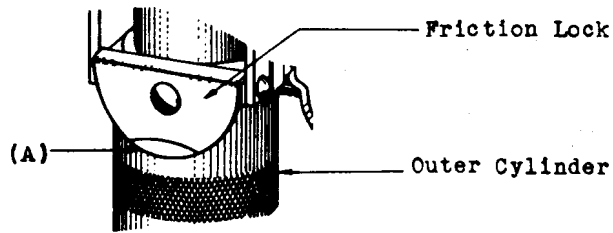

Fig. 6 - Cylinder Locking Arrangement Externally Adjusted Dashpot Relay
2.12 Tightness of Friction Lock - Fig. 6(A) - (Externally Adjusted): The friction lock shall hold the outer cylinder firmly in place. Gauge by feel.